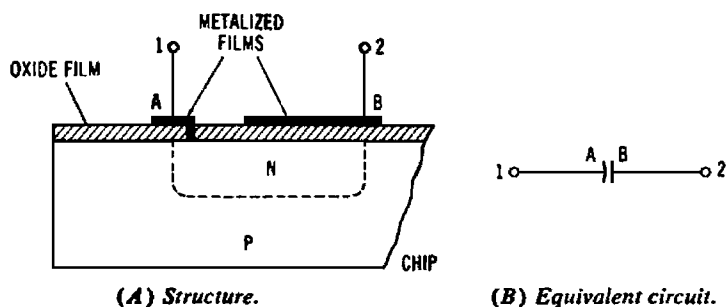

Fig. 1-4. Integrated capacitor.
Fig. 1-4 shows how a capacitor is formed in an IC. In Fig. 1-4A, an n region has been processed into the p-type chip, and a thin oxide film then has been grown on the surface of the chip. The n region constitutes one plate of the capacitor, and the oxide film is the dielectric. A thin metallic film (B) deposited on the oxide film is the other plate of the capacitor. A thin metallic spot (A) has been deposited on